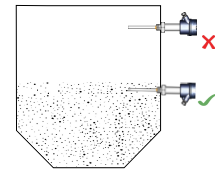

Figure 48: Cable Gland Arrangement
- To prevent the ingress of moisture and water seepage in side mounting position, the cable entries should always point downwards as shown in Figure 48.